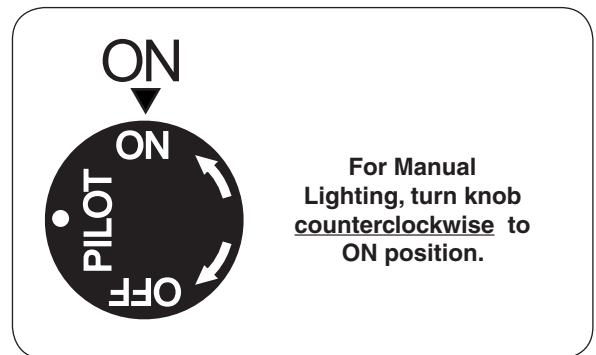

Fig. 19-1 Control knob detail (ON)
1. Ensure the pilot is burning. Turn the gas control knob counterclockwise to **ON** (Fig. 19-1) to ignite the burner. The valve will open and the burner will light.